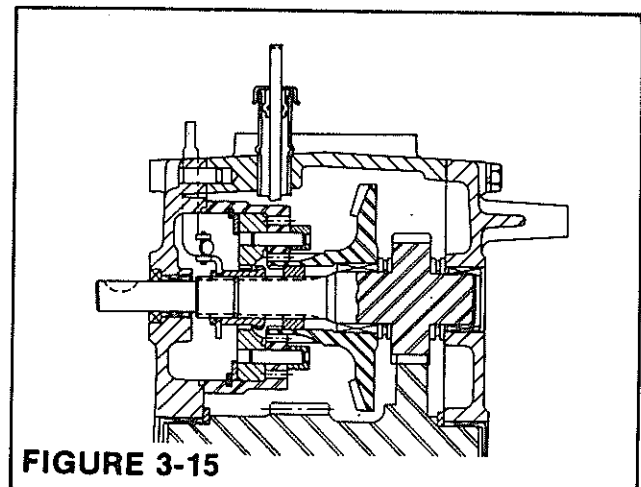

FIGURE 3-15
7. Before assembling, install roll pin into shifting arm (A), Figure 3-15 and fork.
8. Slide fork into groove of sliding gear (B). (Gently tap with a hammer until fork is completely in the groove.)
9. Install planetary carrier assembly & pinion shaft assembly into left axle housing by sliding shifting fork into hole in cover and rotating into position. Install four screws (C). Do not tighten until cluster gear is properly installed with proper washers, torque four screws on planetary carrier to 18 ft. lbs. (24 Nm).